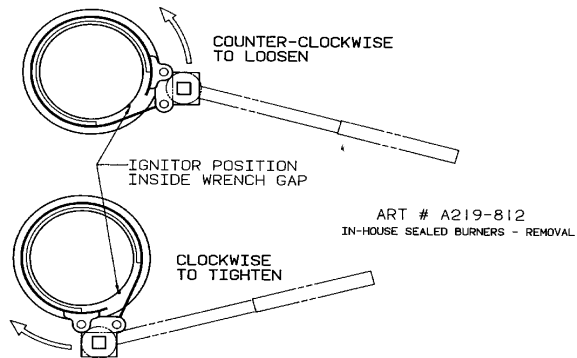

FIGURE 3
3. Place burner wrench (part no. 8312D075-60, available from the dealer or authorized service agency) over the surface burner assembly with the ignitor positioned inside the gap in the wrench ring (figure 3). This prevents the ignitor from being damaged when the wrench grips the burner assembly. Rotate the burner assembly approximately one-eighth turn counter-clockwise and lift from the main top.